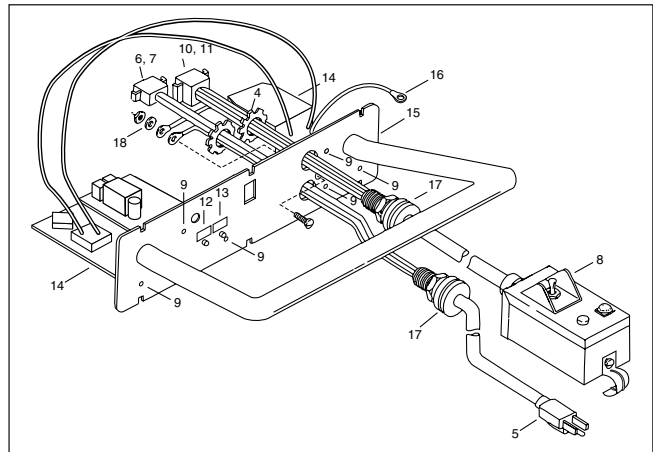

Figure 2. Handle and Circuit Control Assembly
7. Plug in the power cord. Using the toggle switch check bender functions for bend, return, and jog. If all functions are working, install the six hex head screws securing the handle to the frame. Tighten the four screws, which secure the handle brackets. Figure 2.